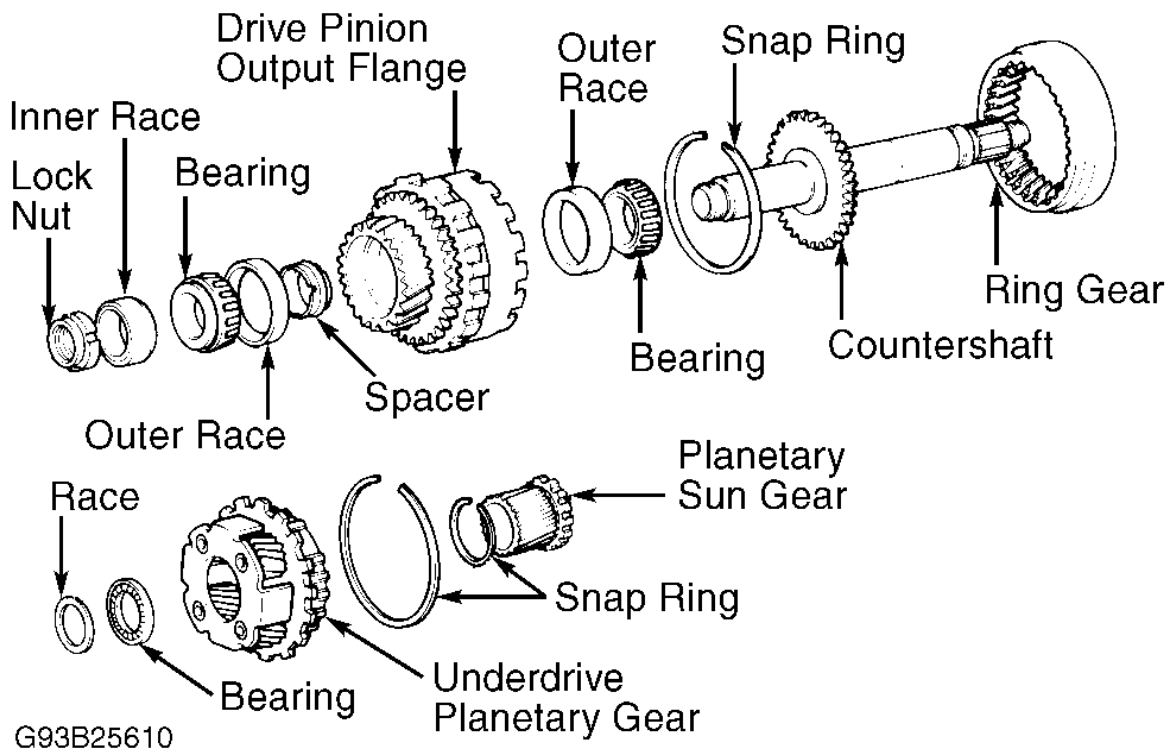

Fig. 46: Exploded View Of Countershaft Assembly
1. Remove planetary sun gear from countershaft. Remove snap ring from sun gear and countershaft assembly. Remove underdrive planetary gear, thrust bearing and race. See Fig. 46.
1. Press bearing of thick inner race on countershaft. Install ring gear and snap ring to countershaft. Install bearing outer races to drive pinion. Press thick bearing race into flange side of drive pinion. Using adapters, press thin bearing race on remaining side of drive pinion. See Fig. 46 .
6. Using a punch and hammer, stake lock nut. Remove counterdriven gear. Install thrust bearing and race "H". See Fig. 88 . Install underdrive planetary gear and snap ring. Install snap ring to sun gear. Install planetary sun gear to countershaft. See Fig. 46 .
CAUTION: Note which step at end of primary regulator valve sleeve contacts valve body prior to removal. Line pressure is affected by plunger location. See Fig. 46 .